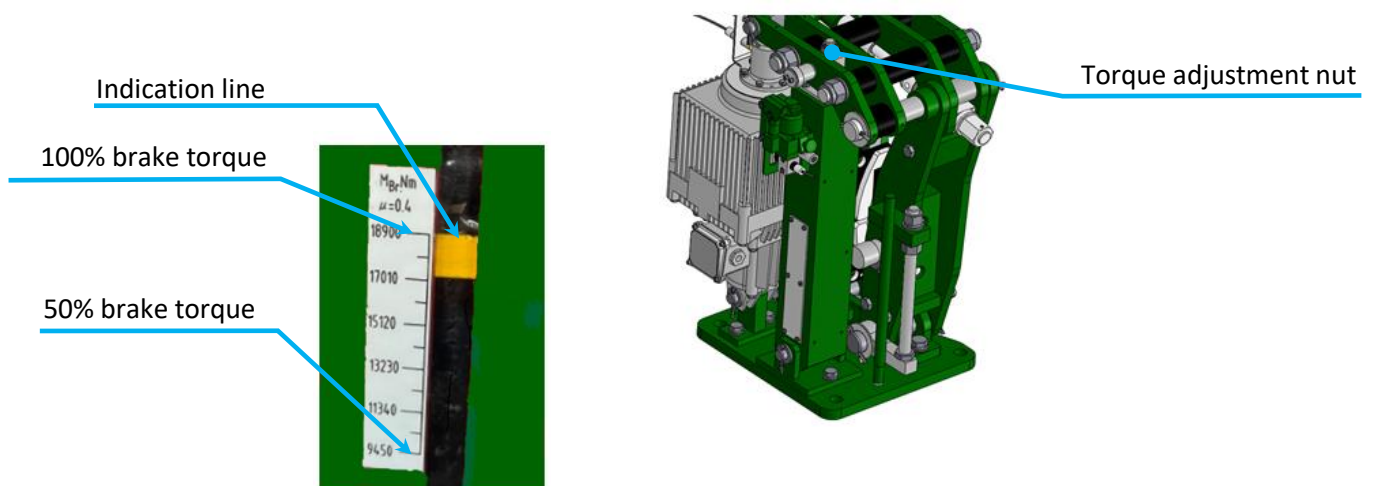

Fig. 5: Brake torque adjustment
The brake must be closed. Clockwise (CW) rotate torque-adjusting nut (Pos. 1) with a spanner, brake torque will increase, on the contrary, the brake torque will decrease.(refer to fig 5). The upper edge of the spring force indicator shows the brake torque.